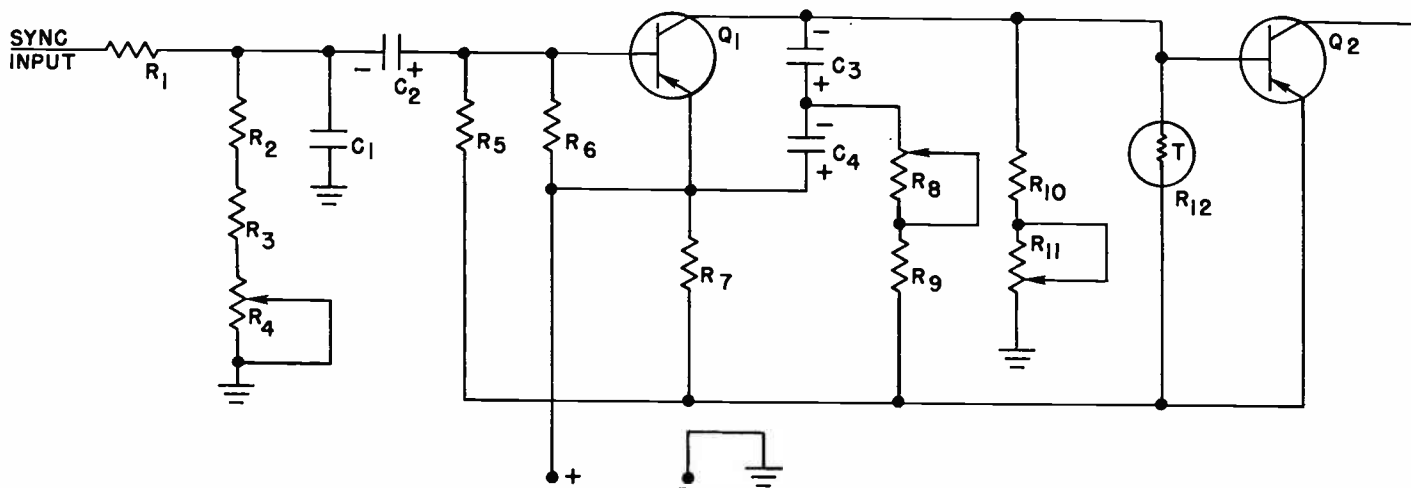

Fig. 22. A transistor multivibrator.
A transistor multivibrator that is used as the vertical sweep oscillator in a modern TV receiver is shown in Fig. 22. In addition to forming part of the multivibrator circuit the transistor Q_2 is also the output transistor; in other words, it is the transistor that feeds directly to the vertical deflection coils. However, we will not be concerned with that part of the circuit now; we will concern ourselves only with the multivibrator action.
- (q) Through what path does C_2 in Fig. 22 discharge?